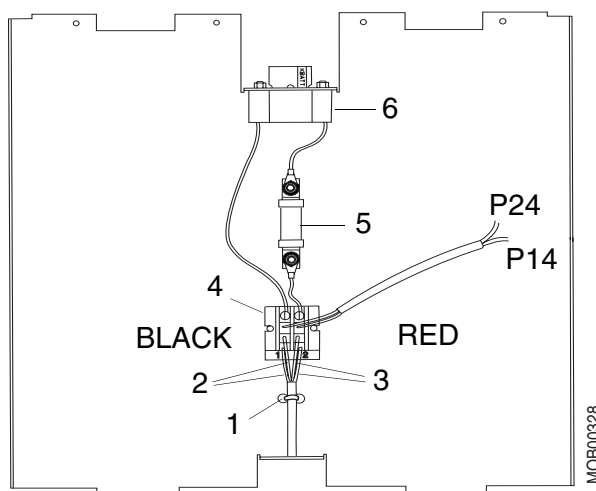

Fig. 5
- Cut the cable ties on the upper shelf (1/Fig. 5). Disconnect black cables (2/Fig. 5) and red cables (3/Fig. 5) from the connector (4/Fig. 5).
- Move the fuse (5/Fig. 5), connector (4/Fig. 5) and battery connector (KBATT) (6/Fig. 5) from the old upper battery shelf to the new upper shelf.
- Connect the black (2/Fig. 5) and red cables (3/Fig. 5) to the connector on the upper battery shelf and fasten with new cable ties.
Be sure to connect the red and black cables correctly (see Fig. 5). Otherwise the power conversion unit could be damaged.